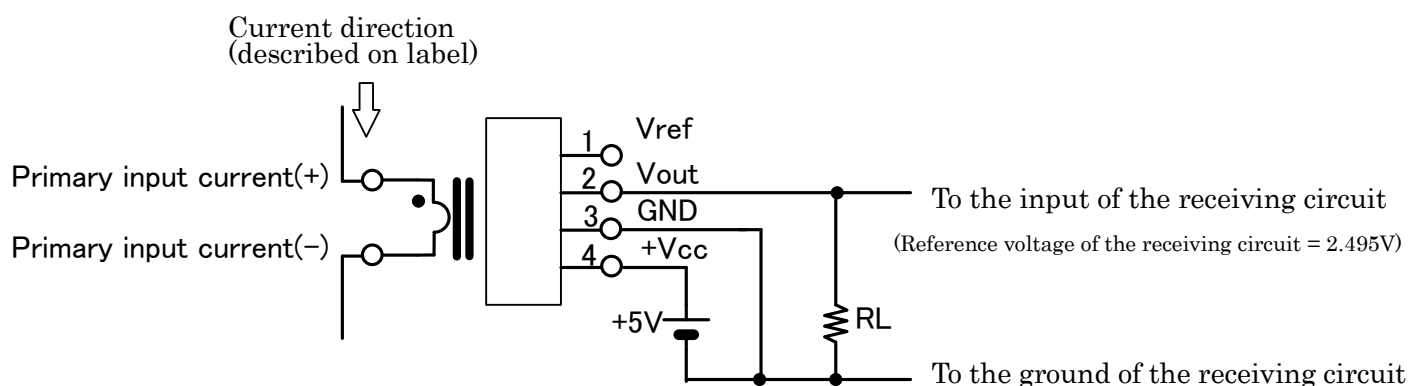

Fig. 2: L31S Standard circuit (when using built-in voltage Vref)
□ Description of Fig. 2
This current sensor converts a measured current into a voltage. The output voltage V_{out} (2) in Fig. 2 is output in accordance with the potential ($2.495V_{typ}$) of the V_{ref} terminal (1). When the current to be measured is 0, V_{out} (2) = $2.495V_{typ}$. When the current to be measured is in the plus direction (direction \Rightarrow of the label), V_{out} (2) becomes $2.495V_{typ} + (\text{voltage converted from the measured current})$. When the current
$R_L = 10 \text{ k}\Omega$ in Fig. 2 is the equivalent resistance of the receiving circuit of the current sensor output V_{out} (2). The load resistance between the V_{out} terminal (2) and the GND potential (3) is standard $10 \text{ k}\Omega$.
The basic operation and the effect of offset voltage are the same as in Fig. 2. Note that the range of the current to be measured varies with the voltage selected for Vref-ex. (See graph 1)